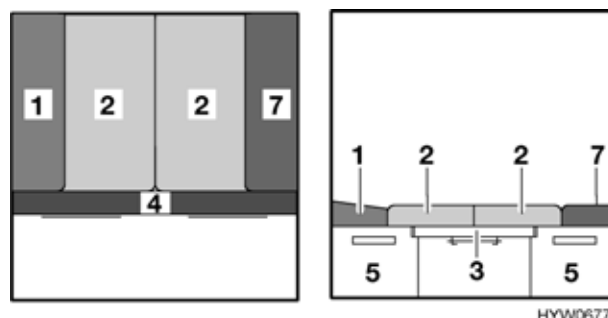

Fig. 72 After conversion
- Place the two seat cushions (Fig. 72,2) in the centre.
- Insert the left back cushion (Fig. 72,1) between the seat cushion and the wall.
- Insert the additional cushion (Fig. 72,7) between the seat cushion and the wall.
- Lay the additional cushion (Fig. 72,4) on the bedding box extension.